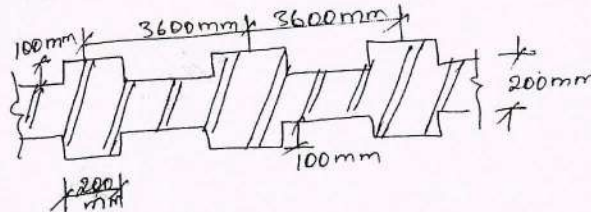

Fig.Q5(b)
b. Design an interior wall of a single storeyed workshop of height 5.4 m supporting a RCC roof. The bottom of the wall rests over a foundation block. Assume roof load = 45 kN/m [refer Fig.Q5(b)]